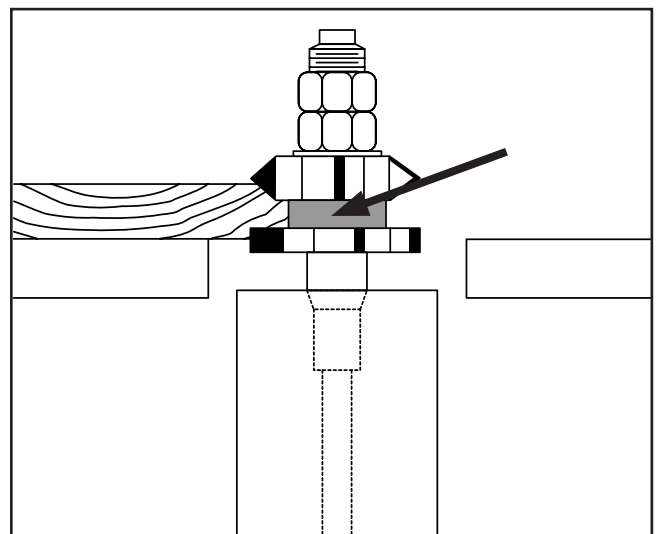

Figure 38. Rub collar between two cutters.
3. **Between two cutters:** Using a rub collar between two cutters, as in **Figure 38**, has the distinct advantage of performing two cuts at once or eliminating the need to change cutters for two different operations. Notice that part of the edge is left uncut. The uncut portion rides on the rub collar.